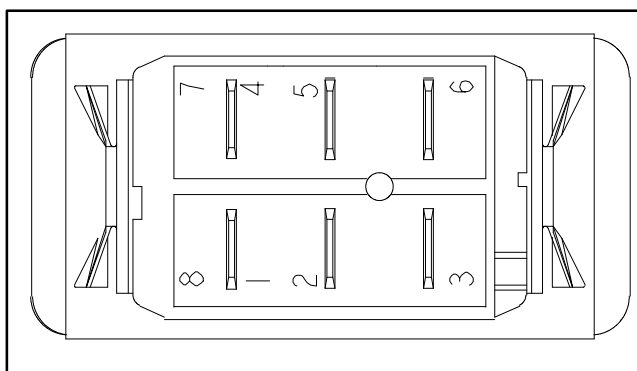

Figure 25
4. With the use of a multimeter (ohms setting), test the switch functions to determine if continuity exists between the various terminals for each switch position. Check the continuity between the switch terminals. The windshield wiper/washer switch terminals are identified in Figure 25 and the circuitry of the switch is shown in below table: